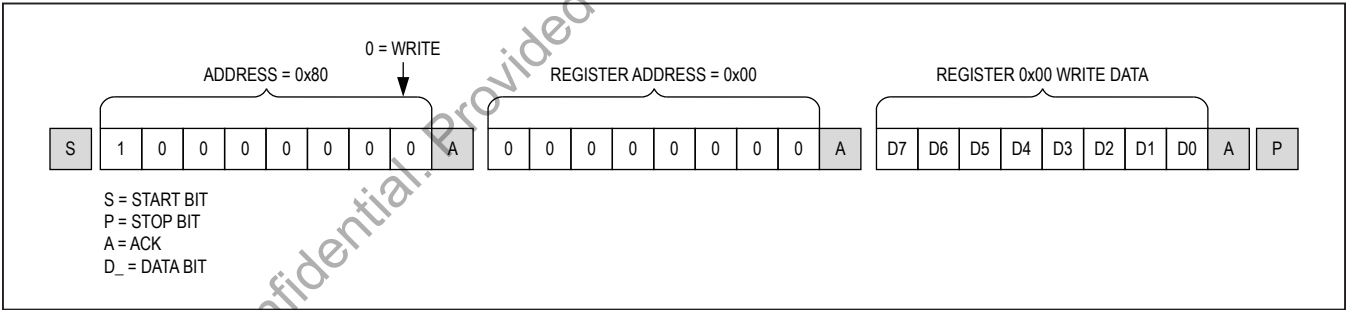
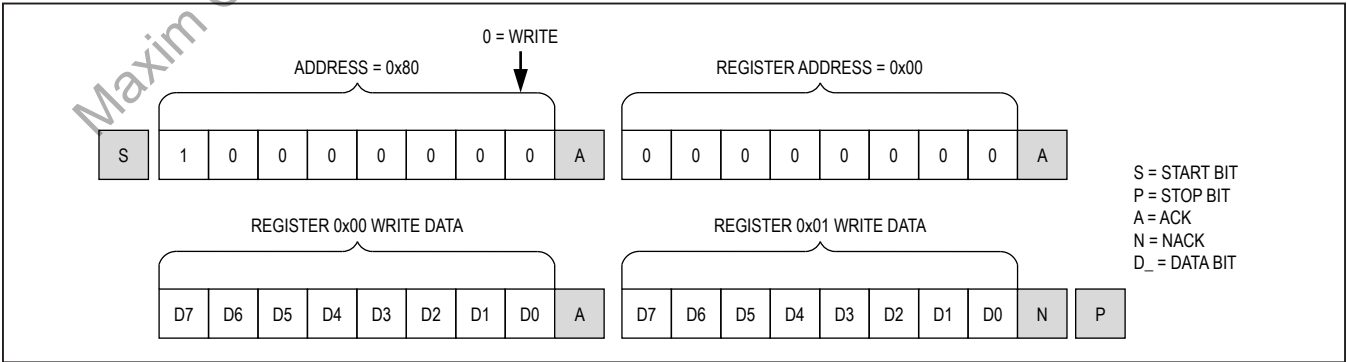

Figure 42. Format for I²C write
Figure 43. Format for I²C Write to Multiple Registers
Writes to the deserializers comprise the transmission of the slave address with the R/W bit set to zero, followed by at least one byte of information. The first byte of information is the register address or command byte. The register address determines which register of the device is to be written by the next byte, if received. If a STOP (P) condition is detected after the register address is received, the device takes no further action beyond storing the register address (Figure 42). Any bytes received after the register address are data bytes. The first data byte goes into the register selected by the register address, and subsequent data bytes go into subsequent registers (Figure 43). If multiple data bytes are transmitted before a STOP condition, these bytes are stored in subsequent registers because the register addresses autoincrements.